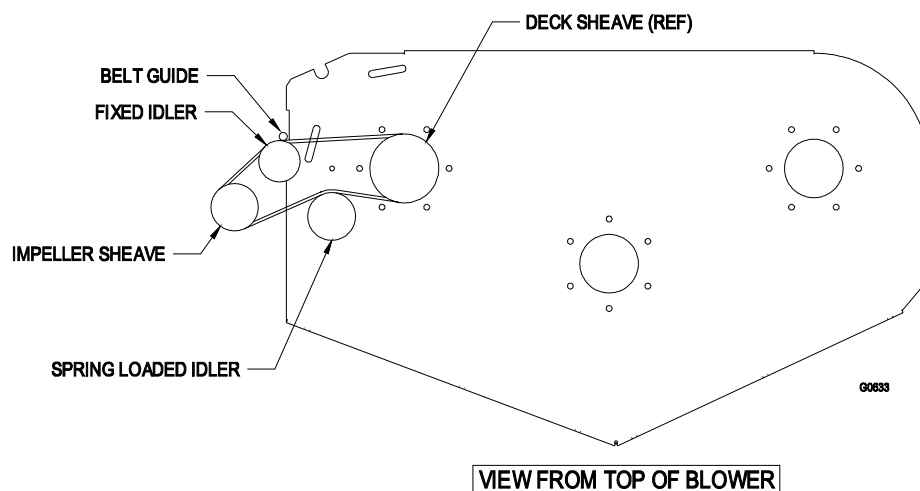

FIGURE 5
- 1) To replace belt, remove the belt guide on the blower (See Figure 5)